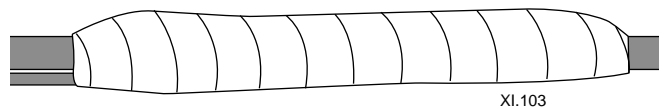

Figure 2
8. Complete splice work using approved procedures. Wrap entire splice with two half-lapped layers of muslin or other company-approved splice wrapping method. Use desiccant for pulp conductors. (Figure 2)